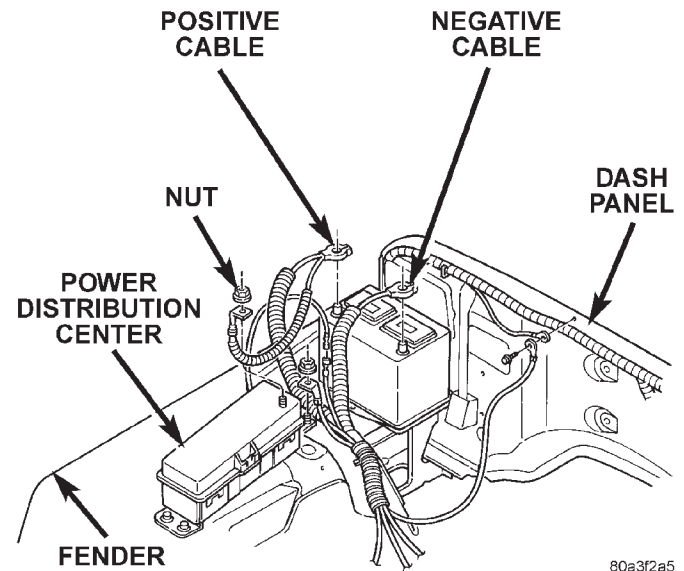

Fig. 6 Power Distribution Center
(1) Disconnect and isolate the battery negative cable.
(2) Remove the cover from the Power Distribution Center (PDC) (Fig. 6).